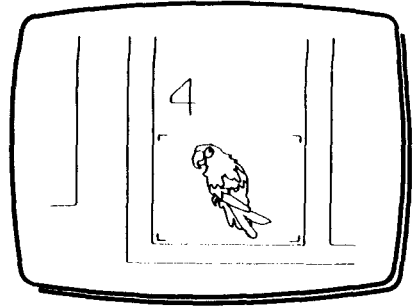

Fig 6
- 20 **Move XY and rotate Z to position the cursor as (4) in Fig 6.**